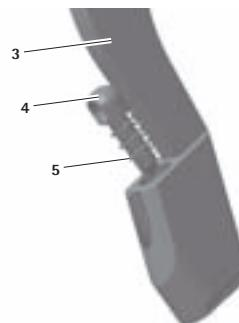

Fig. 3
- Slide push button 4 into handle part 3, making sure that the notch on the pushbutton is aligned as shown in Fig. 3.